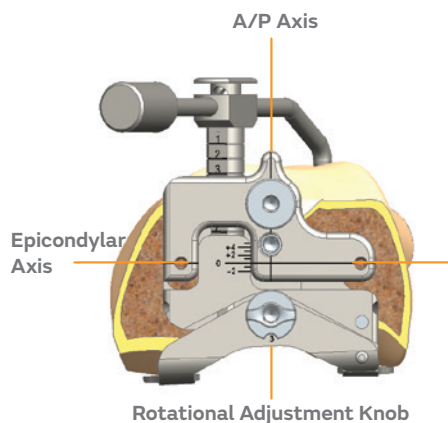

Figure 22
4. Ensure the medial paddle contacts the posterior medial condyle. Begin with the rotational knob set to 3°. If adjustment is needed, use a hex screwdriver to align laser marks (**Figure 22**) with epicondylar and/or A/P axis.